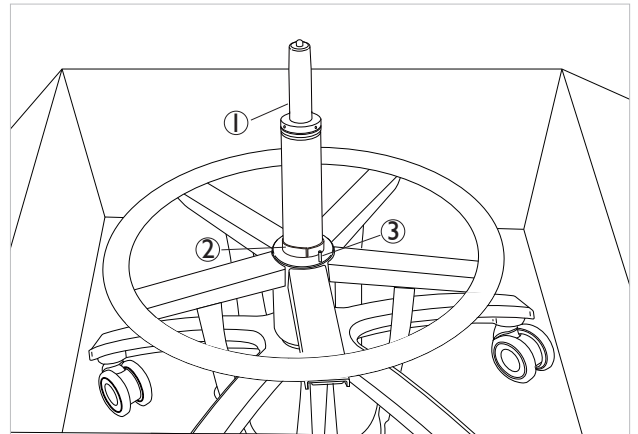
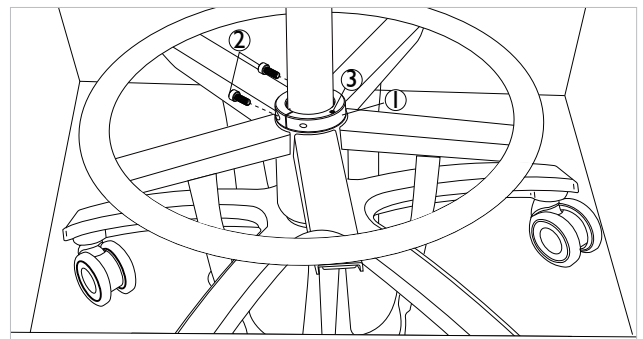

Figure 7: Insert Cylinder into Stool Base - SA5550 and SA555 I
Figure 8: Installing the Cylinder Clamp - SA5550 and SA555 I
5 Install the included Clamp (Figure 8, item 1) around the Plastic Sleeve at the top of the Footring hub, aligning the hole in the clamp (Figure 8, Item 3) to the pin near the hub (Figure 7, item 3), and tighten the two Screws (Figure 8, item 2) of the Clamp to secure the Footring to the Gas Cylinder.
4 Remove the gas cylinder (Figure 7, item 1) from the packaging and insert it into the hub of the stool base with the Plastic Sleeve (Figure 7, item 2) until fully seated as shown in Figure 7.